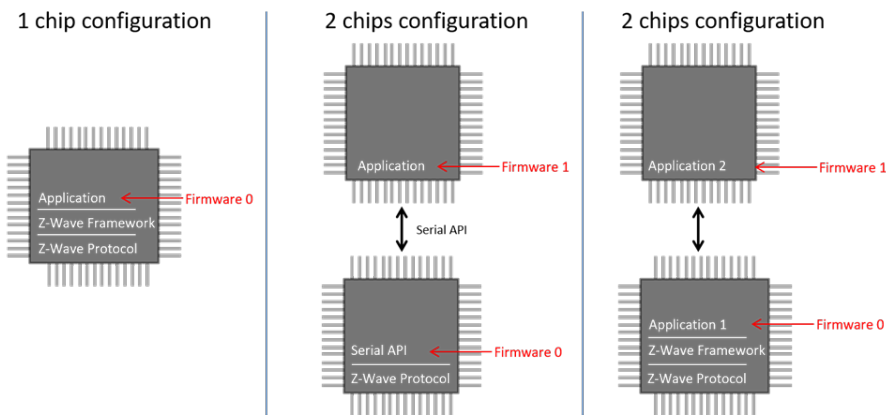
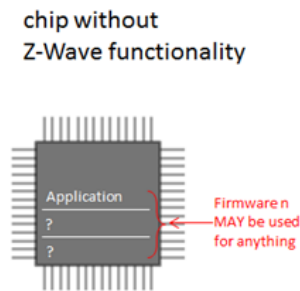

Figure 3.27: Version Report::Firmware Numbering
Figure 3.28: Version Report::Firmware Numbering (2)
- An illustration is given in Figure 3.27 and Figure 3.28.